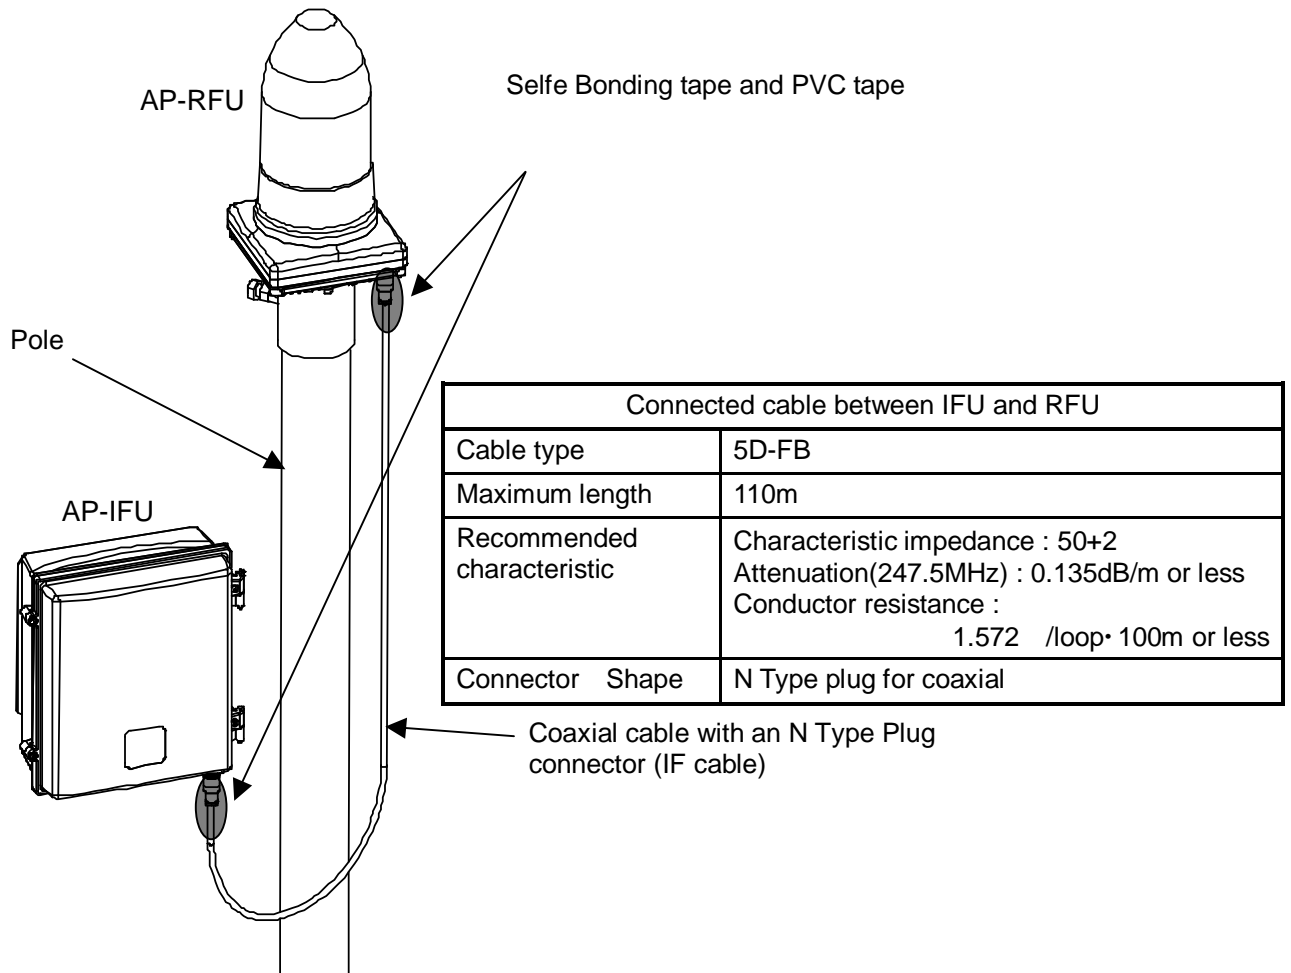

Figure 5-17 Connecting the Cable to the AP-RFU (Omni Antenna)
Step1 Use the coaxial cable to connect the AP-RFU and the AP-IFU. (Figure 5-17)